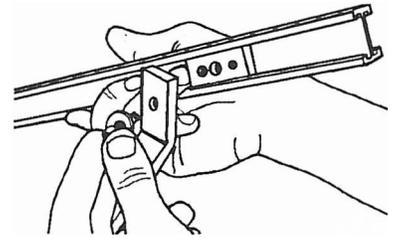
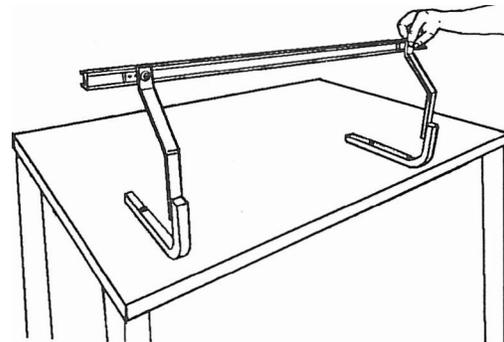

Fig. A-27
Fig. A-28
**21.** Place a flat washer (20) on a  $7/8$ " long cap screw (19). Thread the screw through the top hole of the support bracket (15) and into the center hole of the T-nut, as seen in Fig. A-27, and finger tighten the cap screw. Repeat Steps 20 and 21 for the other end of the channel extrusion. When done, it should look like Fig. A-28. (Later you will attach the support clamps to the bottom of the bracket.)